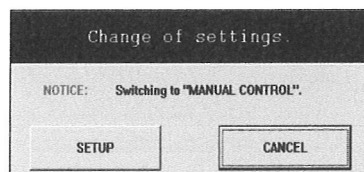

Fig.32
- ④ After filling in all the fields, click on "SETUP" button. A message box as shown in Fig. 32 appears in response.